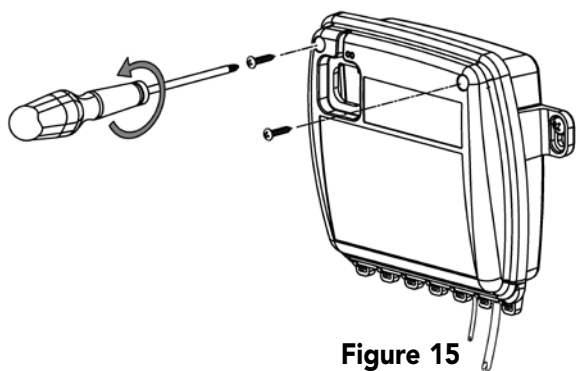
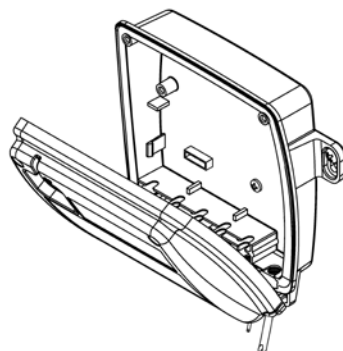

Figure 15
Figure 16
1. Using a Phillips-head screwdriver, remove the two cover screws from the front of the ChromaSteam3 control box (**Figure 15**), and remove the cover from the unit (**Figure 16**).